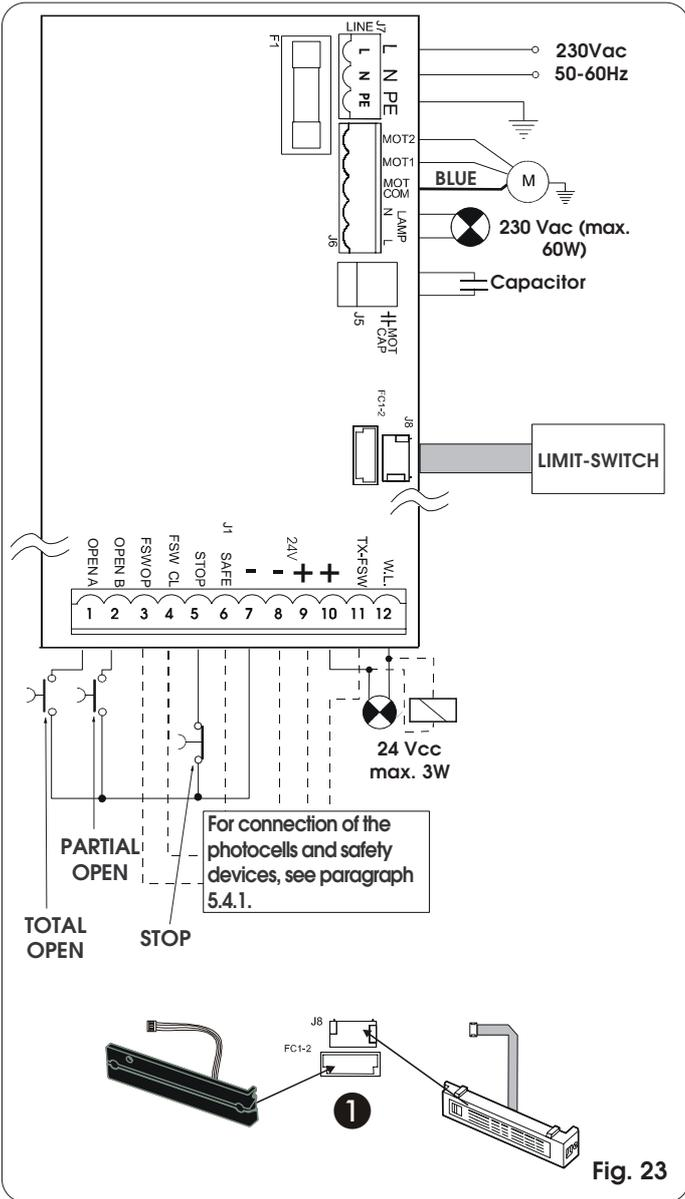

Fig. 23
**5.4.2. J7 Terminal board - Power supply (fig. 23)**
**5.4.3. J6 Terminal board - Motors and flashing lamp (fig. 23)**
**5.4.4. J1 Terminal board - Accessories (fig. 23)**
Quick-fit connector for connecting the limit-switch. For connecting both the MLS limit-switch and the inductive limit-switch (fig. 23 ref. 1) to the equipment.